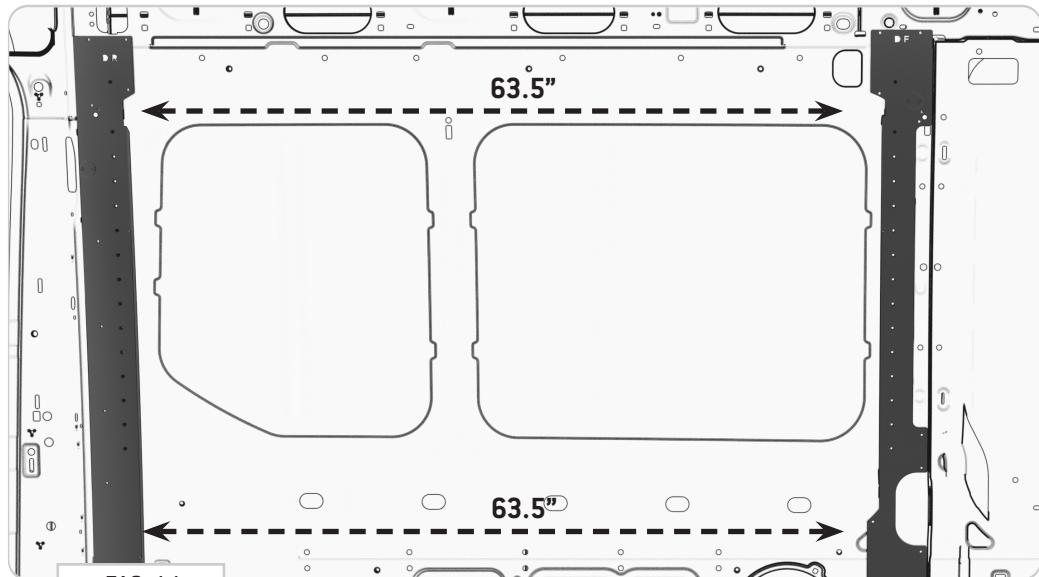

FIG 12
4.2 Securing the Driver Side Front Bracket: Double-check your measurements against your marks and proceed to secure the **Driver Side Front Bracket** by drilling through all of the **Rivet Holes** with a **3/16"** or similar sized **Drill Bit** (**FIG 12**) and painting with a rust preventative paint.